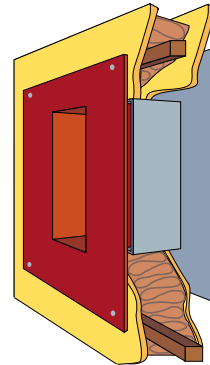

Fig. 8
**RGG** frames and the flanges of the counter frame are screwed into the wall (figs. 8 and 9). A Lycron sealing strip should be used between the wall and the flange to provide a gas tight seal. The galvanised counter frame is available with three different standard depths, which are suitable for the most common wall thicknesses (see page 9).